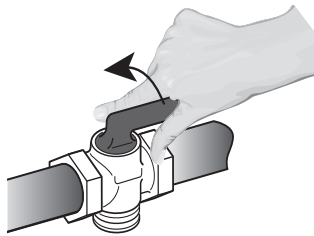

Figure 8
- 2** Shut off the gas supply valve before removing the old range and leave it off until the new hook-up has been completed. (See Figure 8)